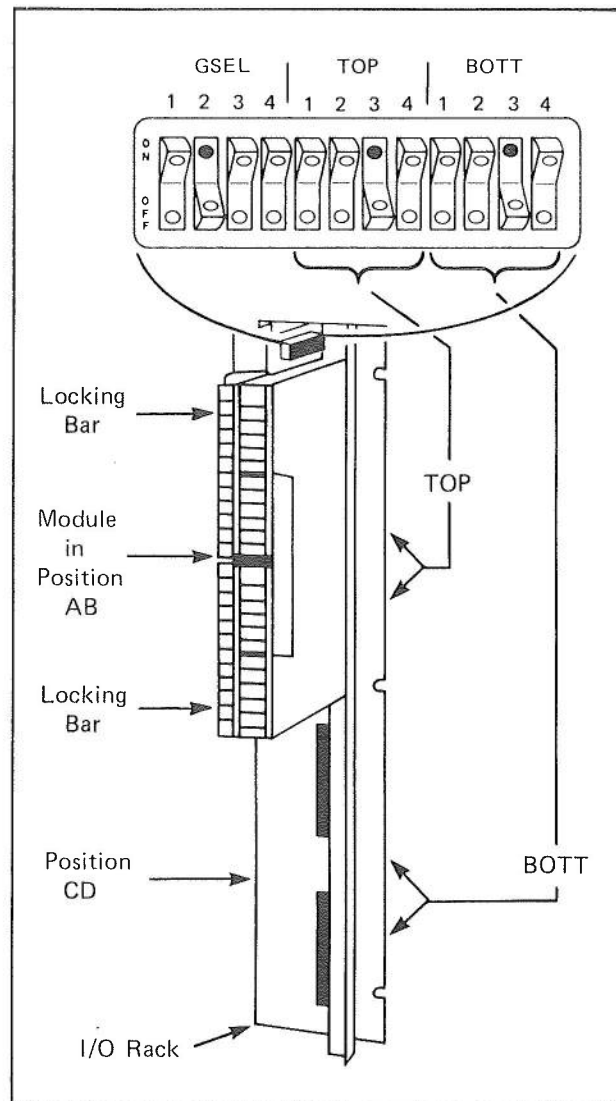

Figure 5 — Vertical I/O Rack Switches
Step 2 — Refer to system drawings and determine in which I/O Rack and in which Position in the Rack the Module is to be placed. (Although a Module can be placed in either the upper two Positions or the lower two Positions, it may not straddle Positions B and C. (See Figure 5.)
Step 4 — Move the appropriate Locking Bars on the I/O Rack's built-in terminal blocks to the left in order to uncover the guide slots on the blocks. (See Figures 5 and 12.)